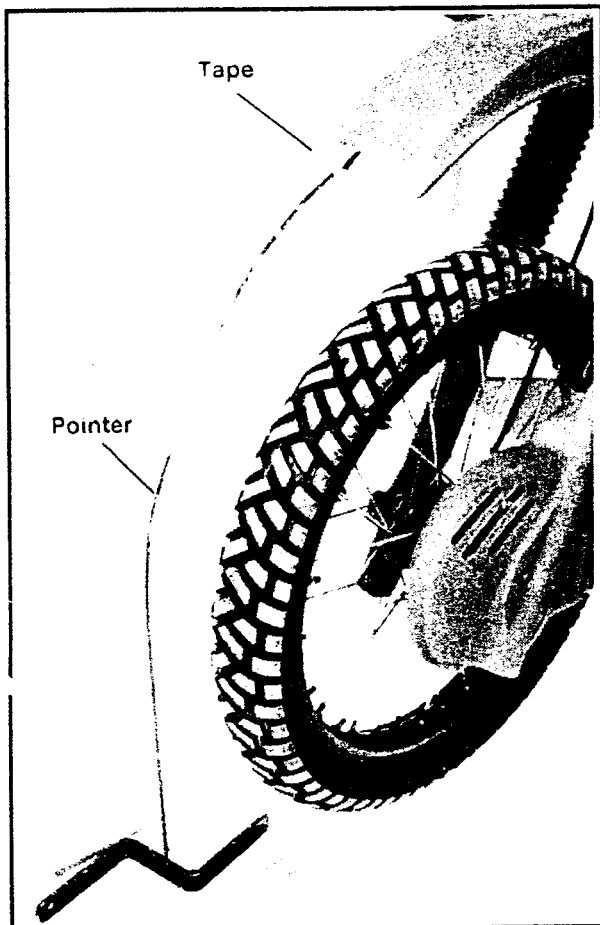

Figure 5-9. Steering Head Bearings Adjustment
1. See Figure 5-9. Support motorcycle in an upright position with front wheel off floor.